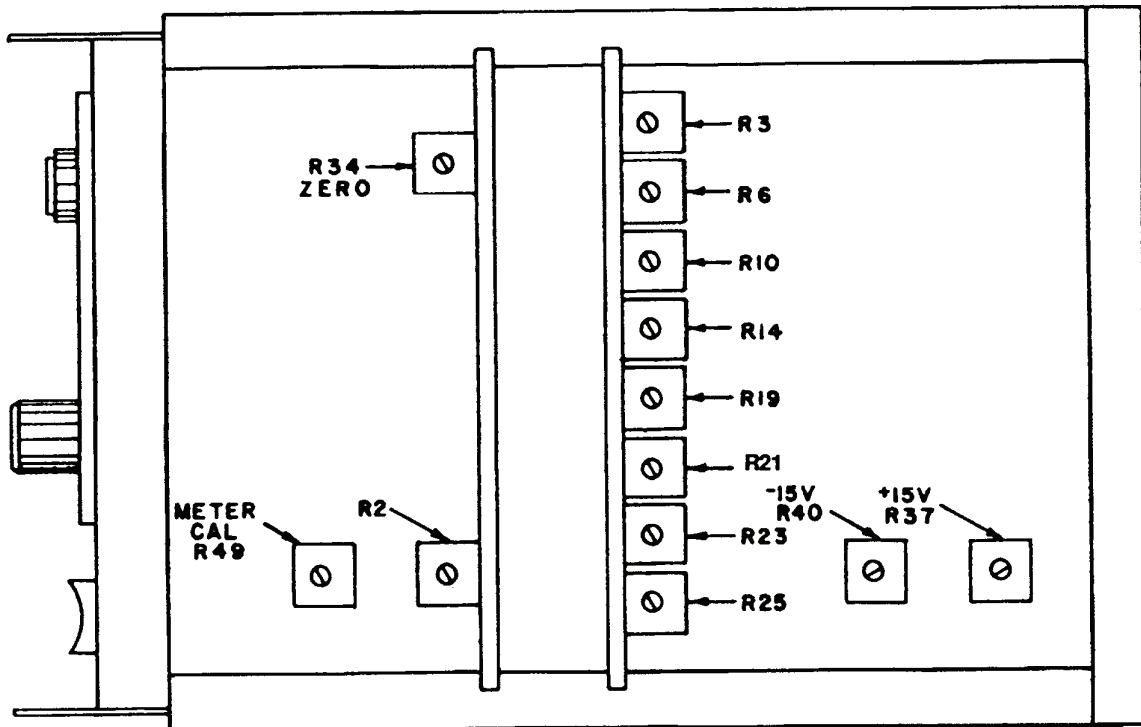

Figure 1. AN/URM-145C.
- (1) Connect TI RF probe to calibrator **WIDEBAND OUTPUT**.
- (2) Set **RANGE** switch to **1.0**.
- (3) Adjust calibrator voltage output controls for a TI meter indication of 1.0 V ac.
- (4) Connect frequency counter low lead to TI chassis.
- (5) Connect frequency counter high lead to TI A5E1.
- (6) Adjust R2 (fig. 1) for a frequency counter indication between 92 and 96 Hz (R).
- (7) Disconnect TI from frequency counter and calibrator.
- (8) Set TI **RANGE** switch to **.001 VOLTS**.
- (9) Disconnect TI RF probe from calibrator.
- (10) Zero TI meter with **ZERO** control.
- (11) Set TI **RANGE** switch to **.3 VOLTS** and adjust R34 **ZERO** (fig. 1) for TI meter indication of 0.
- (12) Set **RANGE** switch to **3.0 VOLTS**.
- (13) Connect TI probe to calibrator **WIDEBAND OUTPUT**.
- (14) Adjust calibrator voltage controls for 3.0 V ac output at 50 kHz.
- (15) Adjust **METER CAL R49** (fig. 1) for a TI indication between 2.7 and 3.3 V ac (ideal 3.0 V ac) (R).
- (16) Set **RANGE** switch to **.001 VOLTS**.
- (17) Disconnect RF probe from calibrator.
- (18) Zero TI meter with **ZERO** control.
- (19) Connect probe to calibrator **WIDEBAND OUTPUT**.
- (20) Adjust calibrator for 1 mV ac output and then adjust **R3** (fig. 1) for a TI indication between .00085 and .001 15 V ac (ideal .001 V ac) (R).
- (21) Set **RANGE** switch to **.003 VOLTS**.
- (22) Disconnect RF probe from calibrator.
- (23) Zero TI meter with **ZERO** control.
- (24) Connect RF probe to calibrator **WIDEBAND OUTPUT**.
- (25) Adjust calibrator for 3 mV ac output and then adjust R6 (fig. 1) for a TI indication between .0027 and .0033 V ac (ideal .003 V ac) (R).
- (26) Set **RANGE** switch to **.1-VOLTS**. Adjust calibrator for .10 V ac output and then adjust R19 (fig. 1) for a TI indication between .09 and 0.11 V ac (ideal .1 V ac) (R).
- (27) Set **RANGE** switch to **.3 VOLTS**. Adjust calibrator for .3 V ac output and then adjust R21 (fig. 1) for a TI indication between .27 and .33 V ac (ideal .3 V ac) (R).
- (28) Set **RANGE** switch to **.01 VOLTS**. Adjust calibrator for .01 V ac output and then adjust R10 (fig. 1) for a TI indication between .009 and .011 V ac (ideal .01 V ac) (R).
- (29) Set **RANGE** switch to **.03 VOLTS**. Adjust calibrator for .03 V ac output and then adjust R14 (fig. 1) for a TI indication between .027 and .033 V ac (ideal .030 V ac) (R).
- (30) Set **RANGE** switch to **1 VOLTS**. Adjust calibrator for 1 V ac output and then adjust R23 (fig. 1) for a TI indication between .9 and 1.1 V ac (ideal 1.0 V ac) (R).